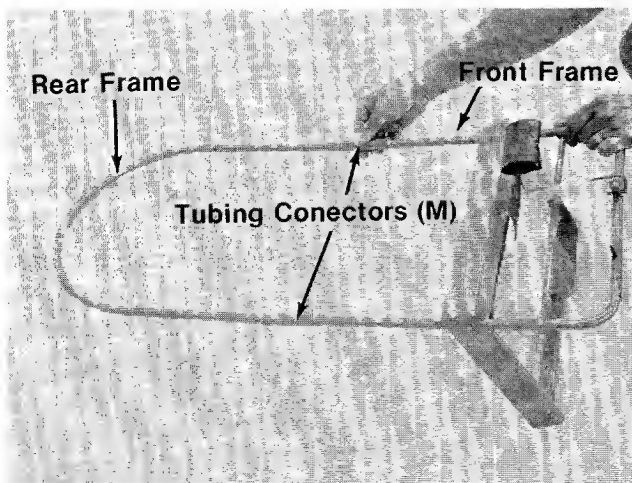

FIGURE 9.
1. Push the tubing connectors (M) onto the ends of the rear frame. Slip the ends of the front frame into the other ends of the tubing connectors. See figure 9.